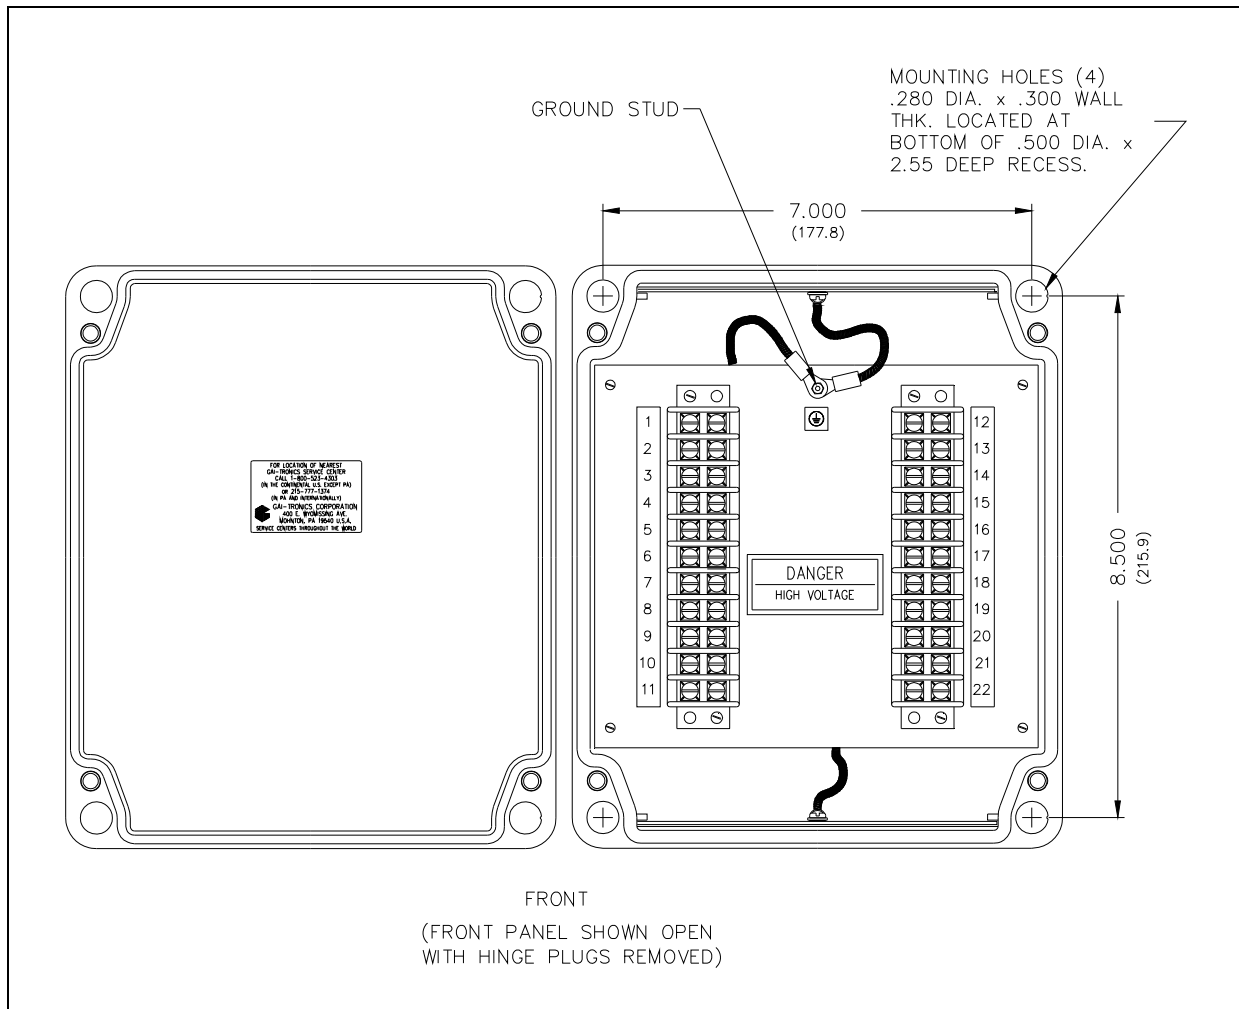

Figure 1. Mounting
3. There are four mounting holes in the rear enclosure. Mount the enclosure to the wall using either four 1/4-20 machine screws with nuts and washers, or #14 wood screws of appropriate length for the mounting surface. See Figure 1. Install the rear enclosure to a wall or an appropriate surface through the supplied mounting holes.